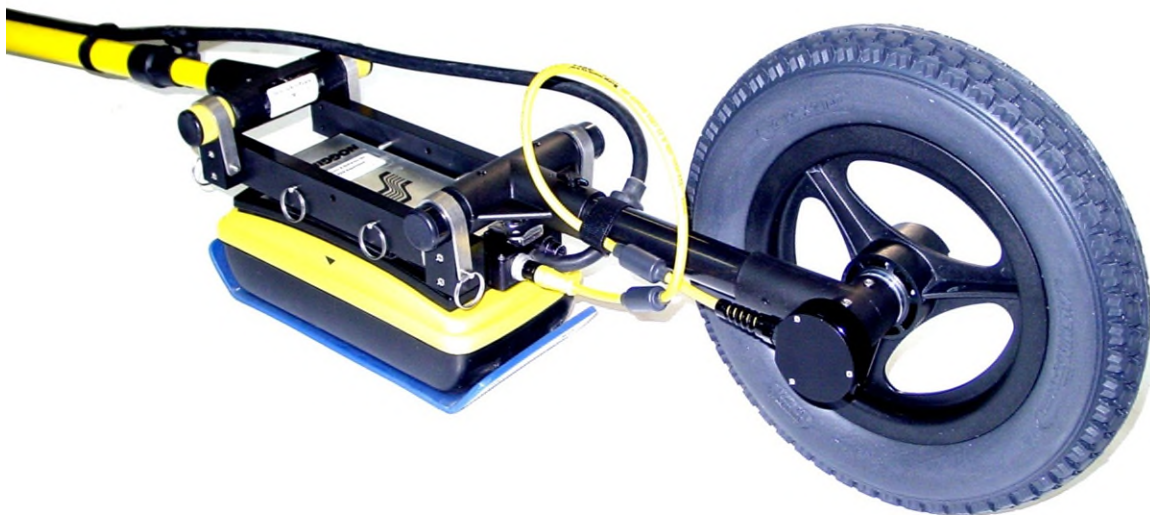

Figure 2-52: Attaching odometer wheel assembly to the other bracket
11. Secure the odometer T-bar to the SmartTow Brackets using the U-brackets and long pins (Figure 2-52).